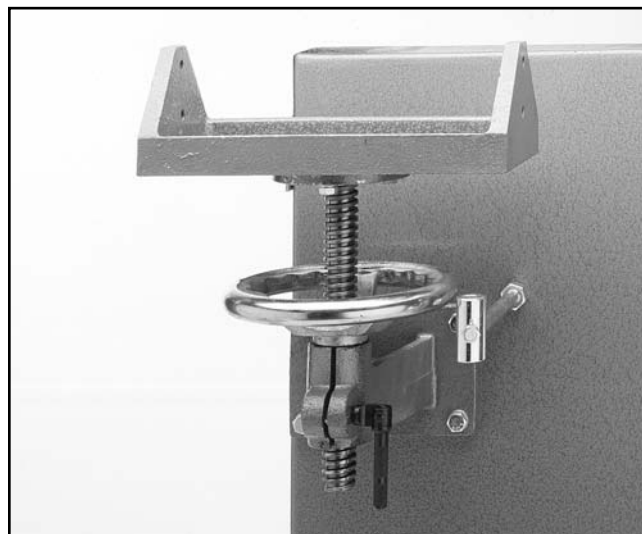

Figure 6. Installing the lead screw assembly.
3. Locate the lead screw / table bracket assembly and the handwheel. Thread the handwheel onto the lead screw about halfway and insert the lead screw into the lead screw bracket. **Figure 6.**